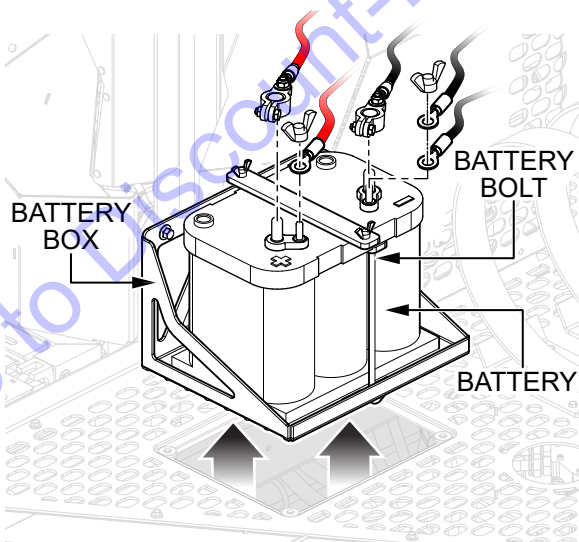

Figure 19. Battery Connection
2. Make sure the battery is well seated in the battery box and secured with the two battery bolts (Figure 19).
3. Connect the two positive (**RED**) battery cables to the positive (+) terminals on the battery, then connect the three negative (**BLACK**) battery cables to the negative (-) terminal. See Figure 19.